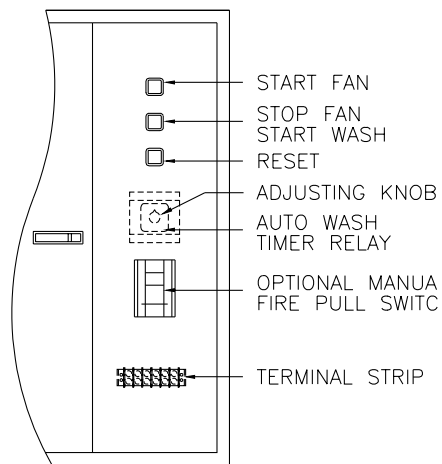

fig. 16
A. VCW Control Panel [Refer to fig. 16]